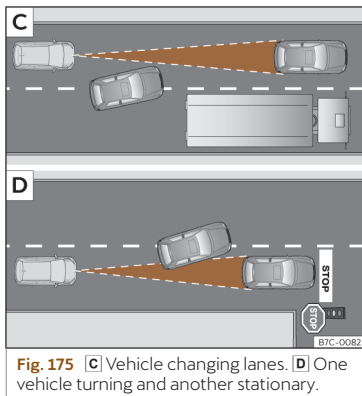

Fig. 175 [C] Vehicle changing lanes. [D] One vehicle turning and another stationary.
- Vehicles that move into your lane, a short distance from your vehicle >>> **Fig. 175** [C].
The ACC may not react to stationary vehicles. If, for example, a vehicle detected by the ACC turns or moves over and there is a stationary vehicle in front of it, the ACC will not react to the second vehicle >>> **Fig. 175** [D].